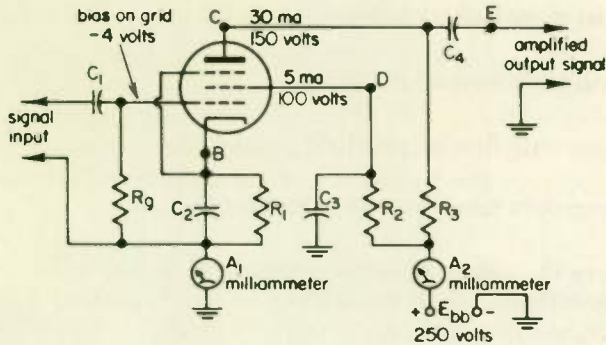

Fig. 30
34. The tube used in the amplifier circuit of Fig. 30 is a
(1) diode. (2) triode. (3) tetrode. (4) pentode.
35. The tube of Fig. 30 uses
(1) a directly heated cathode.
(2) an indirectly heated cathode with heater not shown.
36. The -4 volts bias shown for the control grid of Fig. 30 means that
(1) a sine wave. (3) a dual-purpose current.
(2) a mixed current. (4) a pulsating current.
(5) a direct-alternating current.
38. What currents flow through resistor R_1 of Fig. 30?
(1) A-c only (2) D-c only (3) Both a-c and d-c
39. What currents flow through capacitor C_2 of Fig. 30? (Choose answer from selections for Question 38. Do the same for Questions 40 through 46.)
47. What are the voltages on the screen grid of Fig. 30?
(1) D-c voltage is 100; a-c is 250
(2) D-c voltage is 250; a-c is 100
(3) D-c voltage is 100; a-c voltage is also 100
(4) D-c voltage is 100; a-c voltage is low, ideally zero volts.
48. How is the -4 volts bias to the grid in Fig. 30 obtained?
(1) By the grid-leak action of R_g .
(2) From the plate-cathode voltage drop.
(3) From a separate battery or power supply, not shown in the figure.
(4) By the voltage drop caused by cathode current flowing through R_1 .
49. What is the resistance of R_3 in Fig. 30? (HINT: R_3 drops the supply voltage down to 150 volts at the plate.)
(1) 2340 ohms
(2) 2750 ohms
(3) 3330 ohms
(4) 5000 ohms
(5) 8330 ohms
(6) 20,000 ohms
50. What does meter A_1 read in Fig. 30?